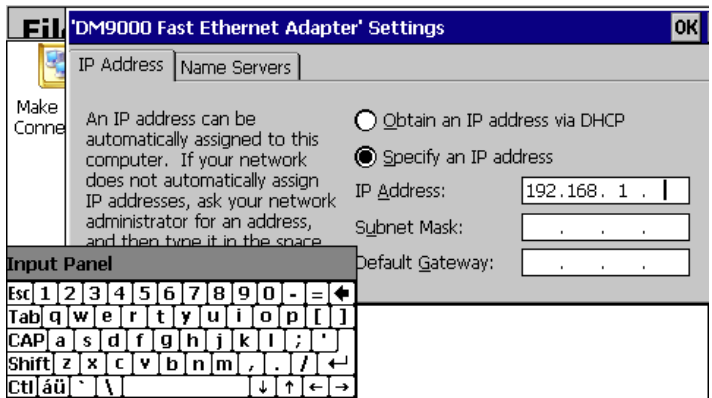

Fig. 128: Ethernet Drivers Window
- Once complete, press OK button at the top right of the window to close the ‘Ethernet Drivers’ window (Fig. 128).